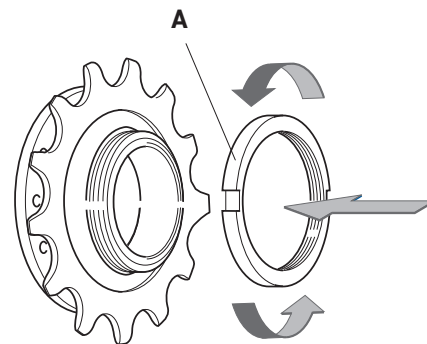

Fig.8
- Mount the ring nut (A - Fig. 8) onto the threaded body of the hub turning it anti-clockwise until the limit stop.